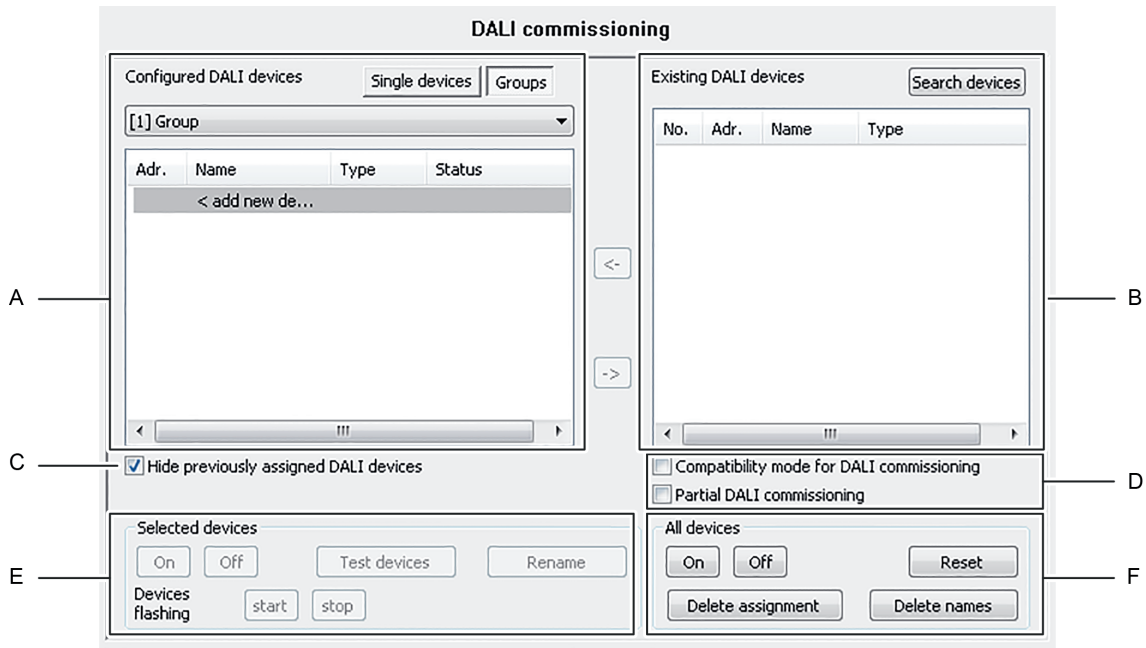

Figure 63: Panes of the commissioning environment
The commissioning environment of the plug-in is divided up into two panes. The right-hand pane lists the operating devices found in the DALI system. The left-hand pane displays the created groups. The assignment of the DALI devices to the programmed groups or single devices also takes place there.(figure 63).
For special cases, it is possible to assign operating devices for group control to more than just one DALI group. In the standard case, assignment of a DALI operating device is only possible in one device. This makes device assignment clear, and the unique assignment means that there are no group overlaps and, as a result, no influencing of configuration and feedback values. If necessary, multiple group assignment can be enabled as an alternative. To do this, the checkbox "Hide previously assigned DALI devices" (C) must be deselected in the Commissioning dialog of the plug-in.(figure 63). This means that it is then possible to assign DALI operating devices to more than just one group during online commissioning.